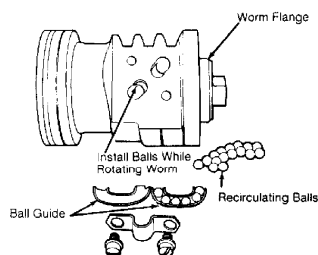

Fig. 8: Installing Recirculating Balls Into Rack Piston
2) Turning worm shaft counterclockwise, insert recirculating balls into rack piston hole nearest piston ring. See Fig. 8. Install 18 recirculating balls in ball guide, beginning with a Black ball, and then alternating between Silver and Black. After installing each ball, press it down to provide space for next ball. Worm shaft will spiral outward as each ball is inserted.